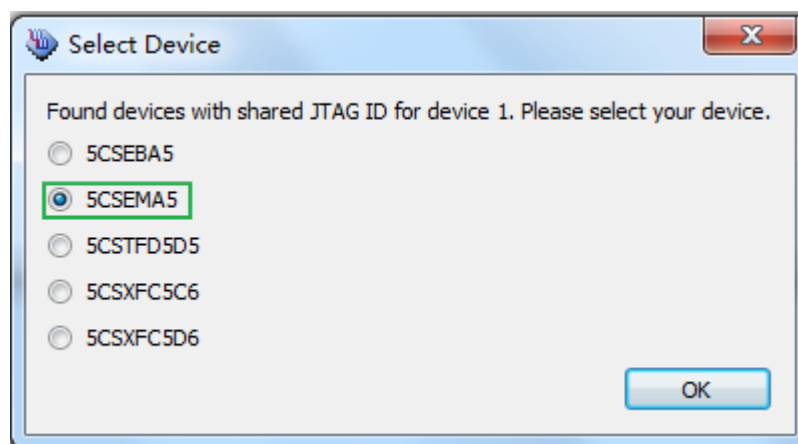

Figure 3-8 Select 5CSEMA5 device
3. Select detected device associated with the board, as circled in Figure 3-8.